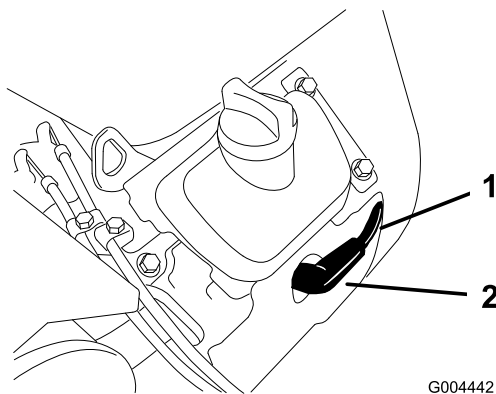

Figure 41
3. Pull the wire(s) off the spark plug(s) (Figure 41). Now clean around the spark plug(s) to prevent dirt from falling into the engine and potentially causing damage.
3. Push the wire(s) onto the spark plug(s) (Figure 41).